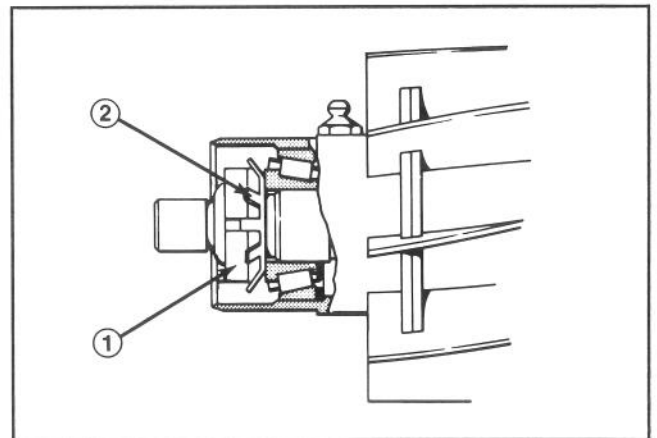

Figure 44
5. If bearings need adjustment, locate and remove lock tab from lockwasher inserted into slot on locknut (Fig. 44).
6. Adjust locknut in small increments and check for proper preload. Bend ears of lockwasher into slots on locknut when adjustment is completed to secure locknut (Fig. 44).